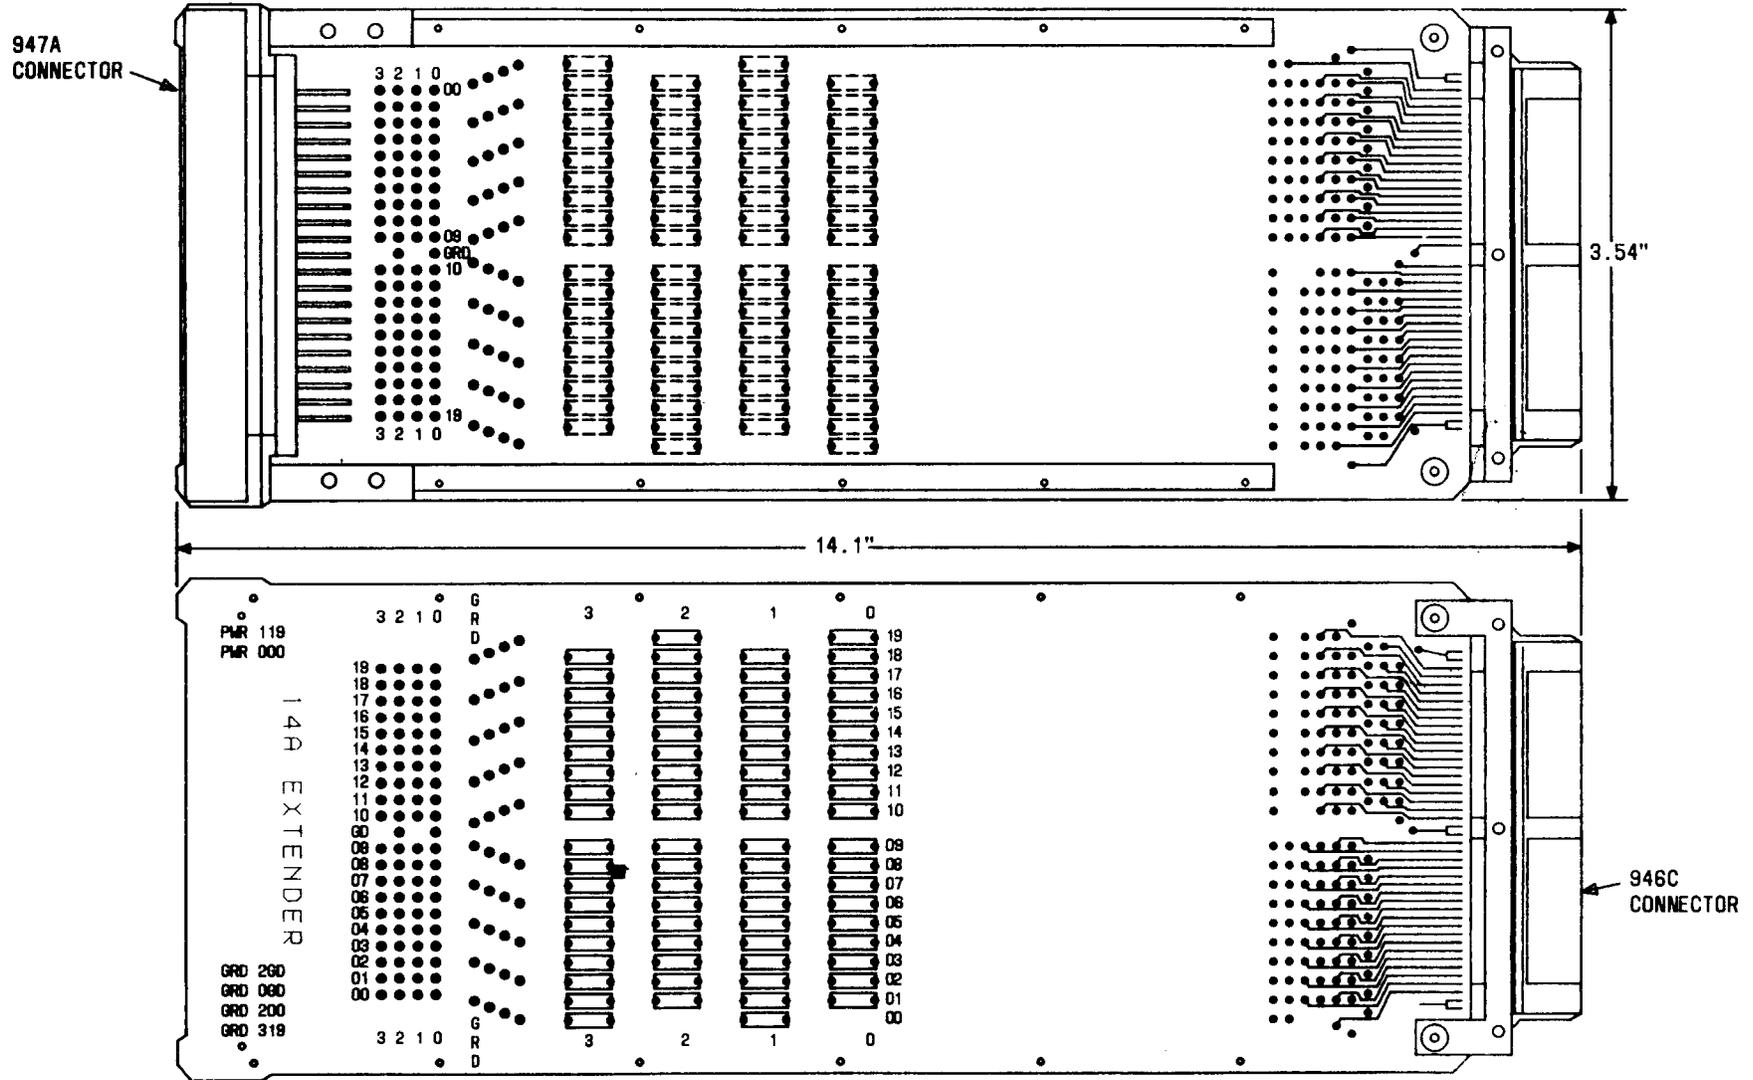

Fig. 1—14A Extender
2.03 **14A:** The 14A extender (Fig. 1) is used to extend FA-, FB-, and FC-type circuit packs and provide access, shorting, grounding, and opening capability for the associated signal leads in the No. 1A and No. 3A processor.